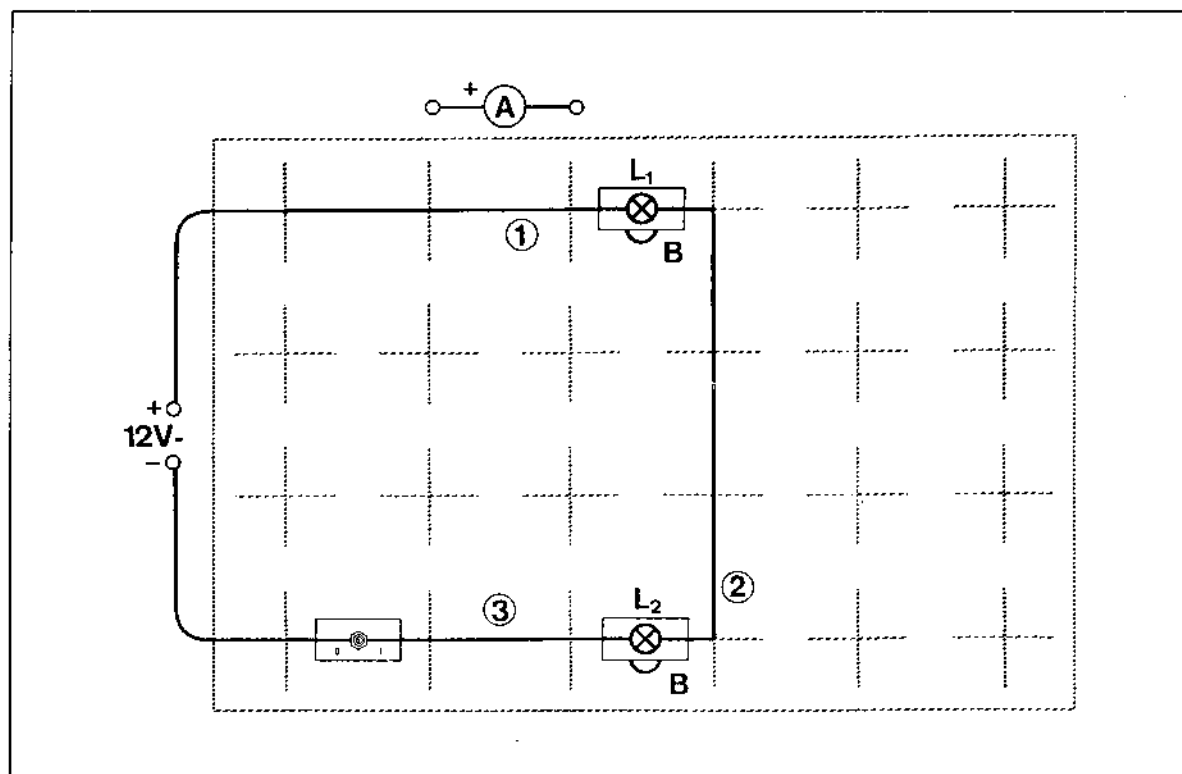

Fig. 1 Experiment setup: Measuring the current in a simple circuit
1. Build a circuit without a voltage source, as shown in fig. 1. The switch is open.